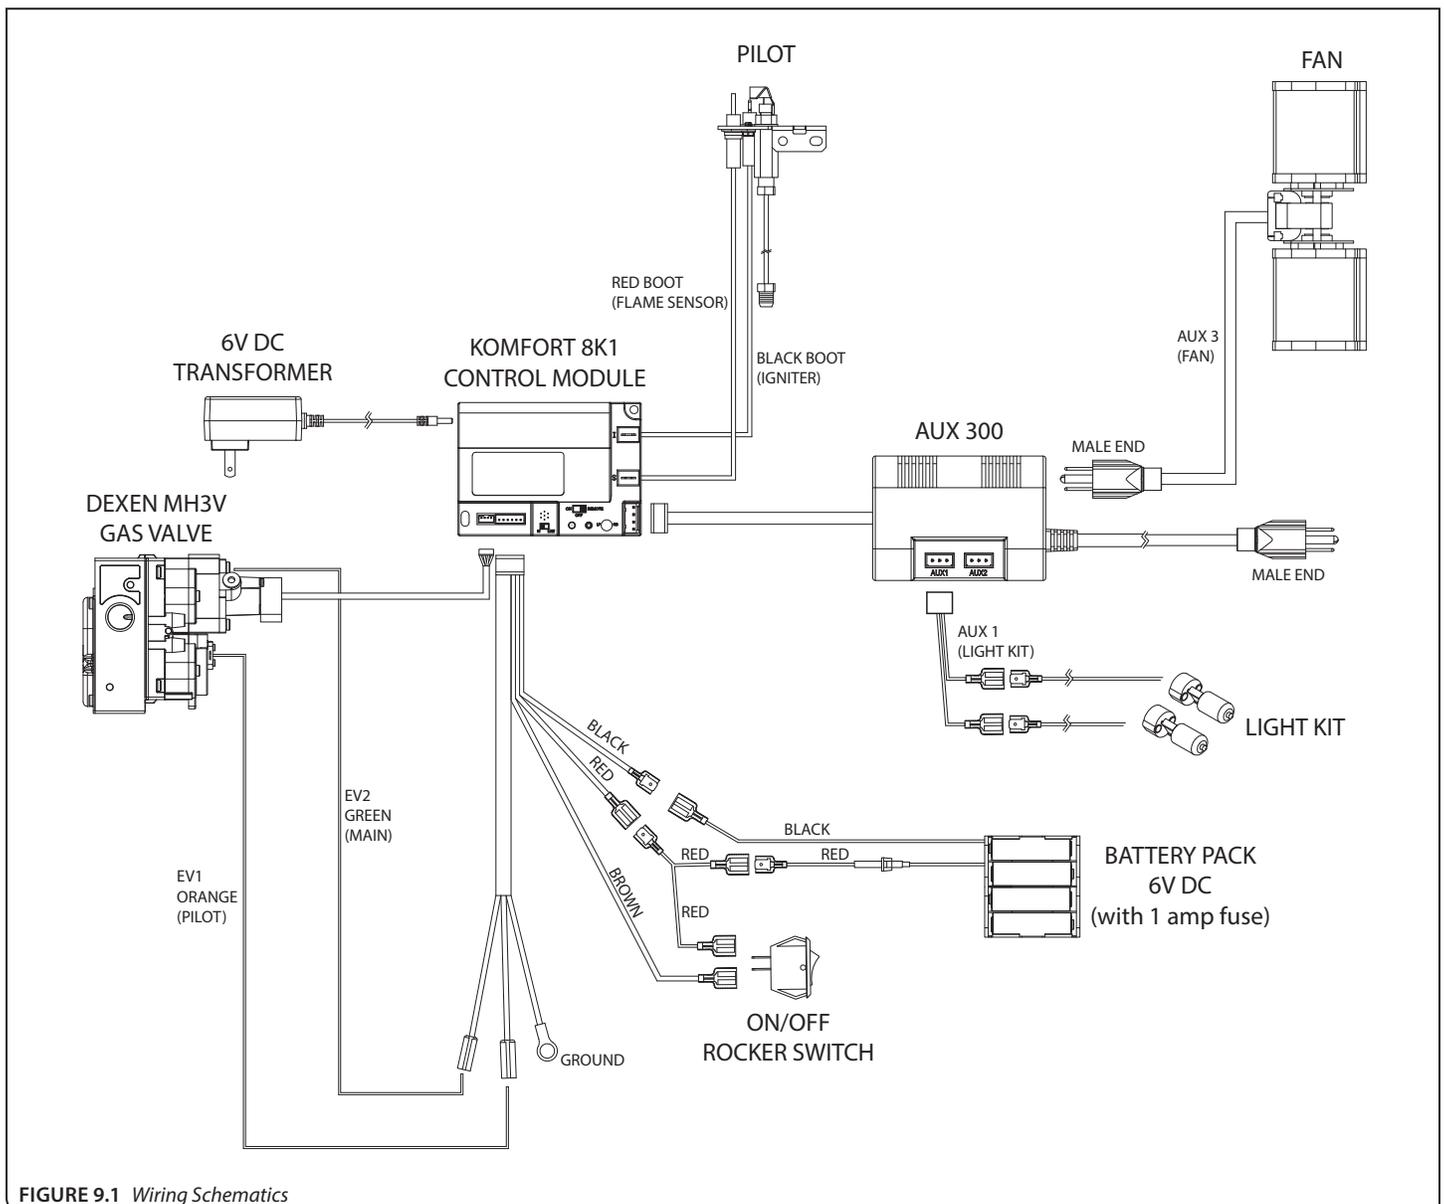

FIGURE 9.1 Wiring Schematics
The wiring diagram for this appliance is shown in **FIGURE 9.1** below.
3. Install (3) AAA batteries (included in the components packet) in the remote control battery bay.
5. Connect the fan to the AUX 300 control module **FIGURE 9.1** (page 45).